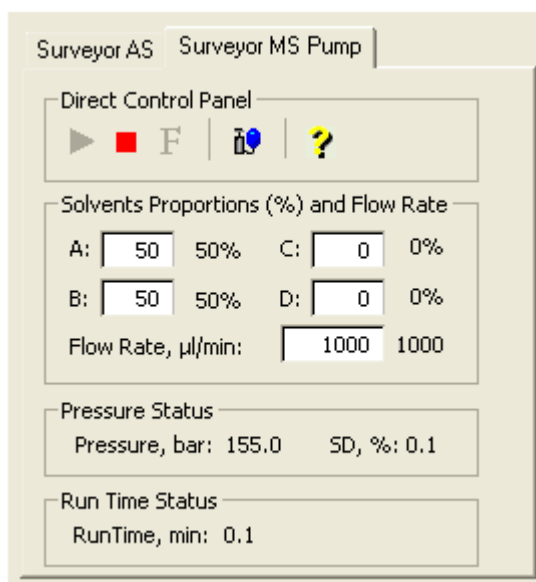

Figure 40. Inlet Direct Control view, showing high flow setup
- a. On the Control / Scan Mode toolbar, click on the AS/LC Direct Control button to display the Inlet Direct Control view in the top right corner of the workspace (Figure 40).